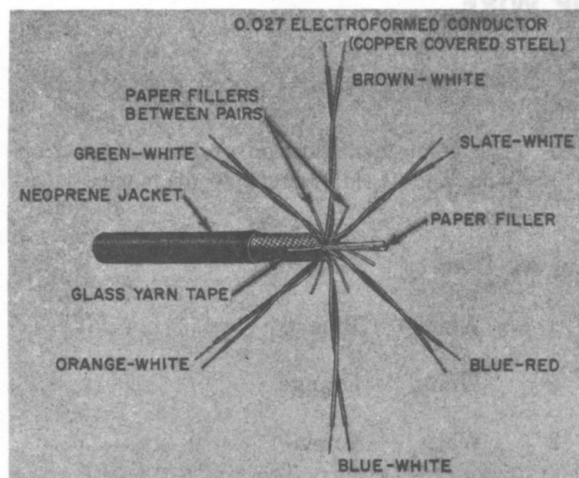

Fig. 2—C Multiple Drop Wire (MD)
- 2.04 Figure 2 illustrates the makeup of C multiple drop wire of later manufacture.